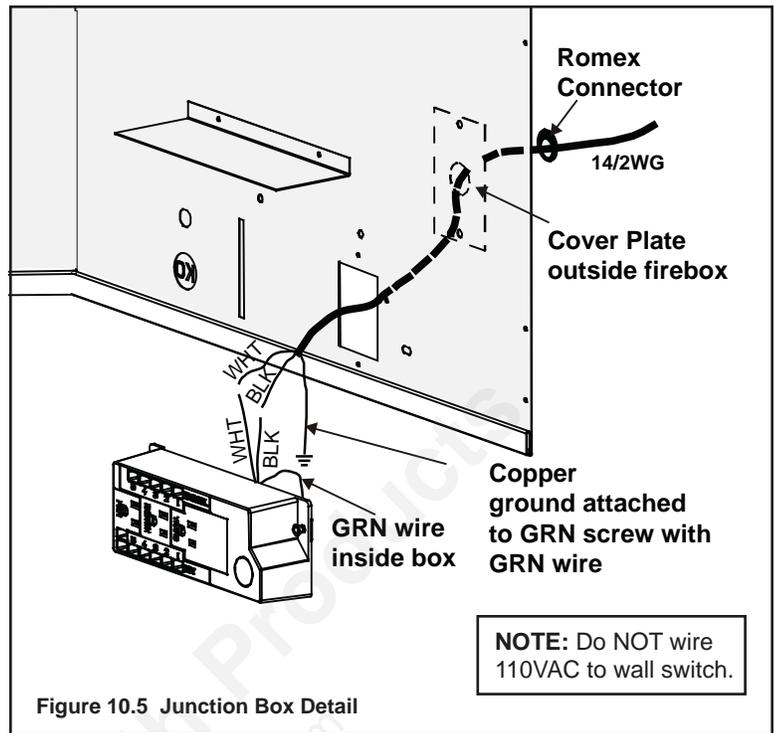

Figure 10.5 Junction Box Detail
- Remove the screw attaching the junction box to the outer shell, rotate the junction box inward to disengage it from the outer shell (see Figure 10.5).